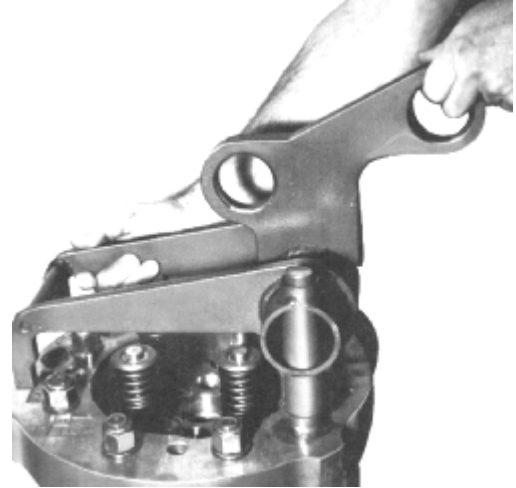
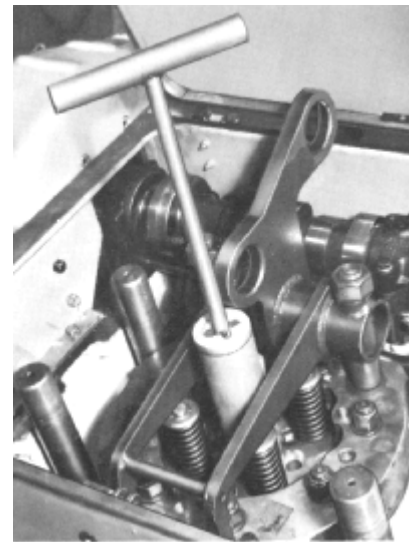

Fig. 5-10 - Lifting Clamp Application
Fig. 5-11 - Piston Holding Tool Application
31. Apply and attach lifting clamp, Fig. 5-10, to cylinder being removed, and screw in the piston holding tool, Fig. 5-11.